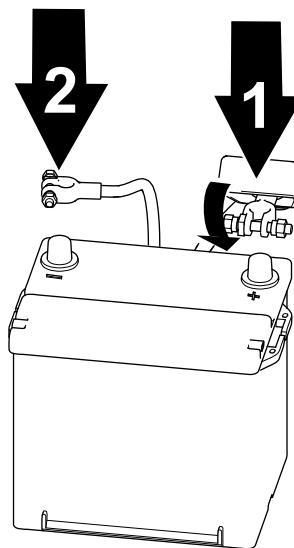

Figure 63
2. Lift the insulator and remove the positive battery cable from the battery post (Figure 63).
1. Connect the positive cable to the battery and tighten the battery-clamp nut (Figure 63).
2. Connect the negative cable to the battery and tighten the battery-clamp nut (Figure 63).